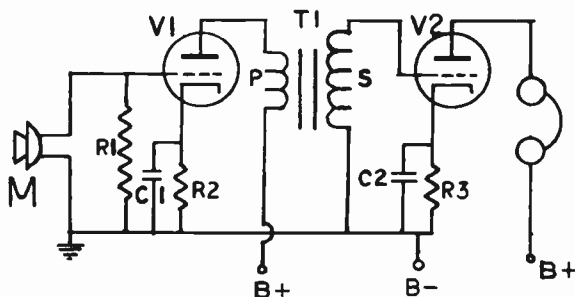

FIG. 9-10. TWO-STAGE TRANSFORMER-COUPLED AMPLIFIER.
**TRANSFORMER COUPLING.** A simple transformer coupled audio-amplifier is shown in Fig. 9-10. V1 and V2 are the voltage amplifiers. T1 is a special type of matching transformer, known as an audio interstage transformer. For maximum power transfer from the plate of V1 to the grid of V2, the transformer is so designed that its primary impedance approximately matches the plate circuit impedance of V1, and its secondary impedance matches the grid circuit impedance of V2.